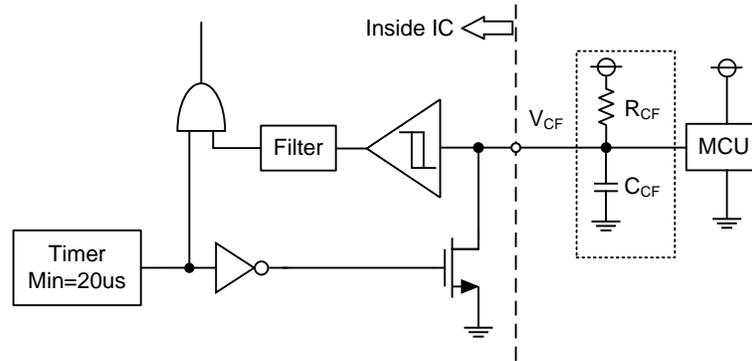

Figure 4.  $V_{CF}$  Output Circuit
- (1) If the control GND is connected with the power GND by common broad pattern, it may cause malfunction by power GND fluctuation. It is recommended to connect the control GND and power GND at a single point (N1), near the terminal of the shunt resistor.
- (2) There are two COM pins in the IPM but it is recommended to only use the (15) COM pin to minimize SC detection noise.
- (3) A zener diode D1 (24V/1W) is recommended between each pair of control supply pins to prevent surge destruction.
- (4) Prevention of surge destruction can further be improved by placing the bus capacitor as close to pin P and N1 as possible. Generally a 0.1-0.22 $\mu$ F snubber capacitor C3 between the P-N1 terminals is recommended.
- (5) Selection of the R1\*C4 filter components for short-circuit protection is recommended to have tight tolerance, and is temperature-compensated type. The R1\*C4 time constant should be set such that SC current is shut down within 2 $\mu$ s; (typically 1.5-2 $\mu$ s). R1 and C4 should be placed as close as possible to the CSC pin. SC interrupting time may vary with layout patterns and components selection, therefore thorough evaluation in the system is necessary.
- (6) NTC signal line should be pull up to the positive side of the 5V/3.3V logic power supply with a proper resistor R2.
- (7) To prevent malfunction, traces A, B, and C should be as short as possible.
- (8) It is recommended that all capacitors are mounted as close to the IPM as possible. (C1: electrolytic type with good temperature and frequency characteristics. C2: ceramic type with 0.1-2 $\mu$ F, good temperature, frequency and DC bias characteristics.)
- (9) Input drives are active-high. There is a minimum 3.5kΩ pull-down resistor in the input circuit of IC. To prevent malfunction, the layout to each input should be as short as possible. When using RC coupling circuit, make sure the input signal levels meet the required turn-on and turn-off threshold voltages.
- (10)  $V_{CF}$  output is open drain type. It should be pulled up to MCU or control power supply (max=  $5\pm 0.5V$ ), limiting the current ( $I_{CF}$ ) to no more than 1mA.  $I_{CF}$  is estimated roughly by the formula of control power supply voltage divided by the pull-up resistor R3. For example, if control supply is 5V, a 10kΩ (over 5kΩ) pull-up resistor R3 is recommended.
- (11) If only a pull-up resistor R3 of 10kΩ connected to  $V_{CF}$  pin, the fault output pulse width is fixed at minimum 20μs. If a capacitor C5 is connected with a pull-up resistor R3, the fault output pulse width can be controlled according to the resistor value and capacitor value. For the design guide, please refer to the Figure 4.
- (12) Direct drive of the IPM from the MCU is possible without having to use opto-coupler or isolation transformer.
- (13) The IPM may malfunction and erroneous operations may occur if high frequency noise is superimposed to the supply line. To avoid such problems, line ripple voltage is recommended to have  $dV/dt \leq \pm 1V/\mu s$ , and  $V_{ripple} \leq 2V_{p-p}$ .
- (14) It is not recommended to use the IPM to drive the same load in parallel with another IPM or inverter types.